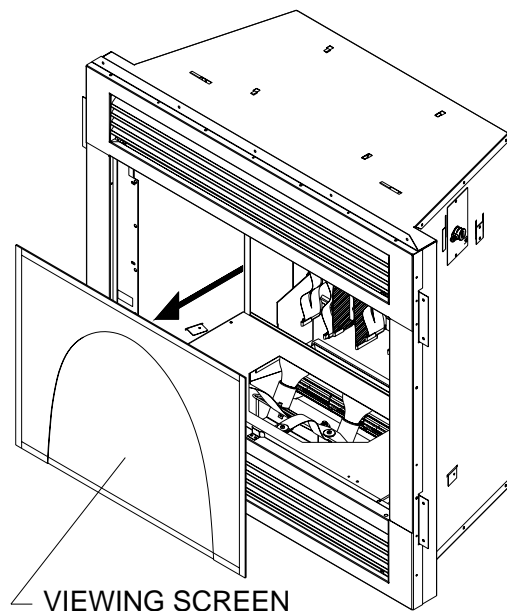

Figure 35 - Removing Viewing Screen
6. Remove the viewing screen from the cabinet face. The viewing screen is attached by magnets. See **Figure 35**, page 16.